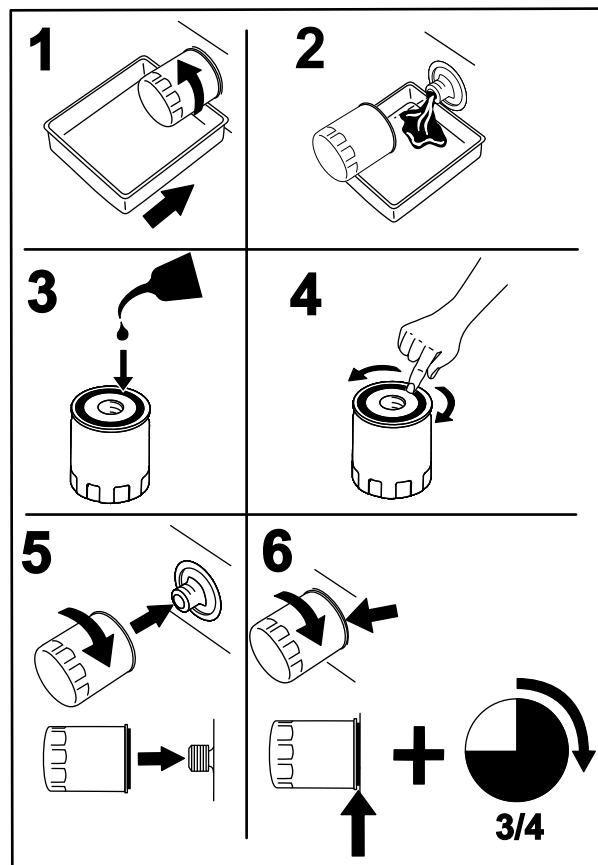

Figure 52
- Change the engine oil filter (Figure 52).